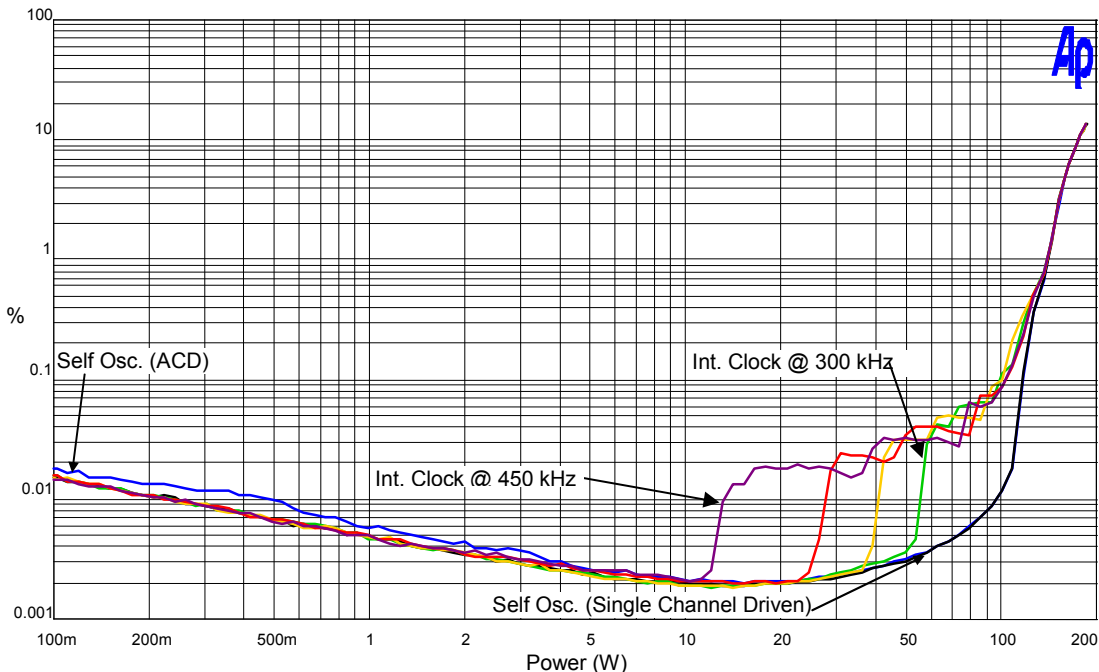

**Figure 5. Typical Lock Frequency Range vs. PWM Duty Ratio
*Please note that the switching frequency lock / synchronization feature is not possible for all frequencies and duty ratios, and operates within a limited frequency and duty-ratio range around the self-oscillating frequency (Figure 5).*